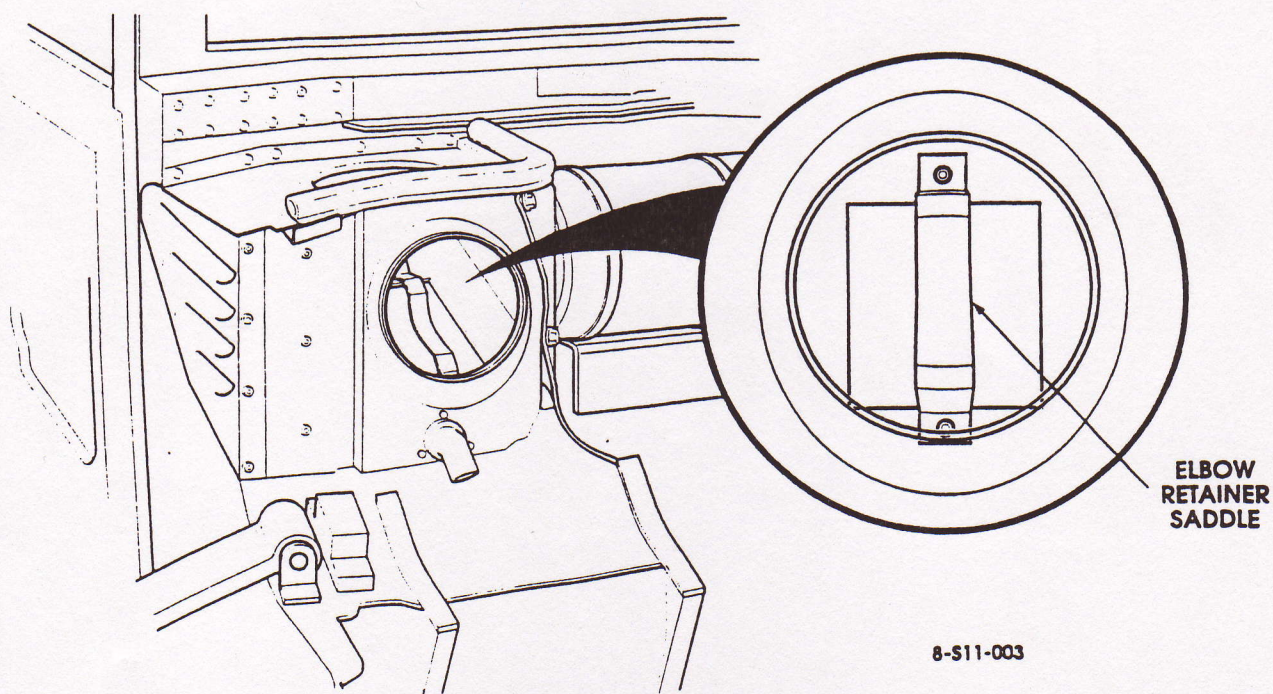

Figure 7: Intake Elbow Retainer Saddle.
29. Position the intake elbow retainer saddle over the outside of the square intake hole under the rain cap with the long side facing forward and rivet from the inside (See Figure 7). The saddle prevents the intake elbow from obstructing HVAC intake air flow if the elbow should change position.